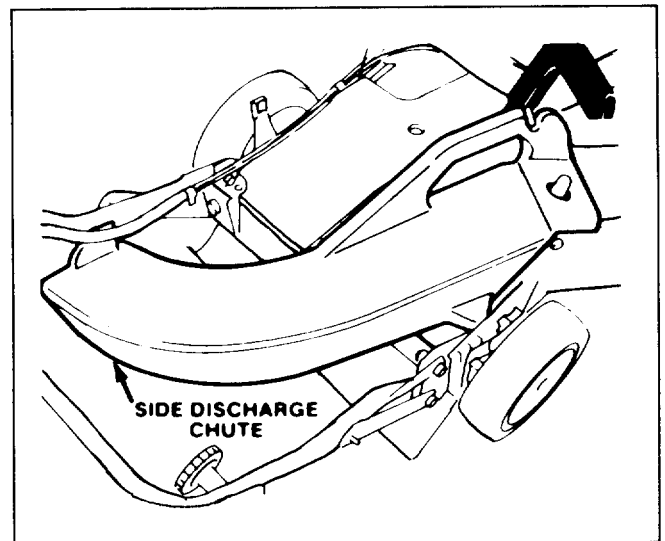

Figure 27
3. **Side Discharge Kit, Model No. 59189** – Install discharge tunnel and rear mounted side discharge chute to convert the Recycler® mower to a side discharge mower (Fig. 27). Includes discharge tunnel plug.